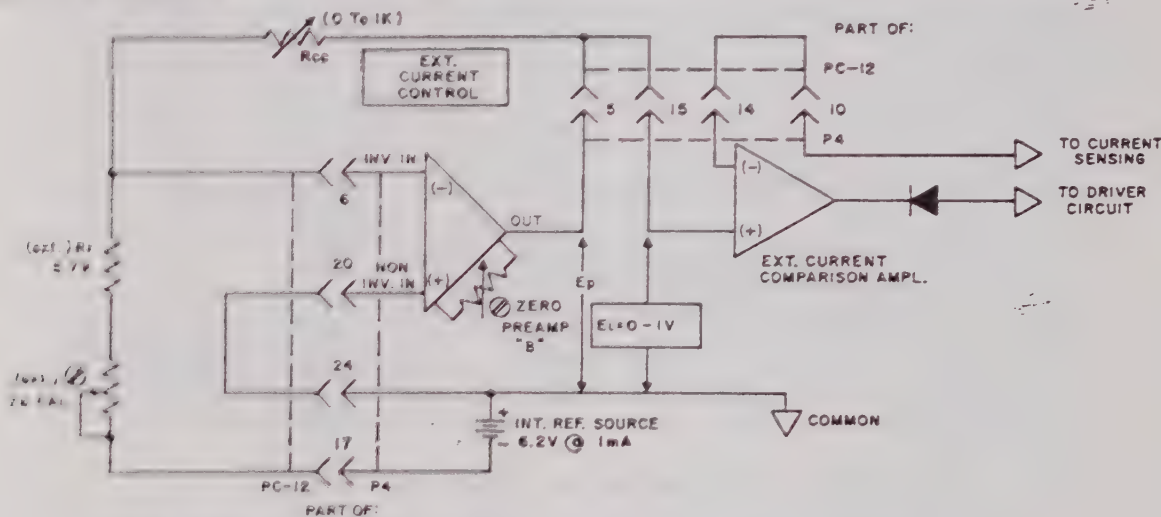

FIG. 3-12 TWO-TERMINAL RESISTANCE PROGRAMMING OF THE CURRENT CHANNEL USING THE PREAMPL AND THE INTERNAL REFERENCE SOURCE.
3.56 (Refer to FIG. 3-12). The preamplifier functions here in the inverting configuration, producing its output voltage (E_p), which is made equal to the required voltage " E_i " according to the equation: